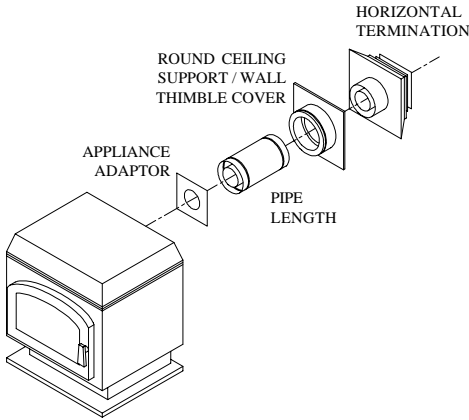

Fig 1
- Horizontal Termination (Figs 1 and 2)